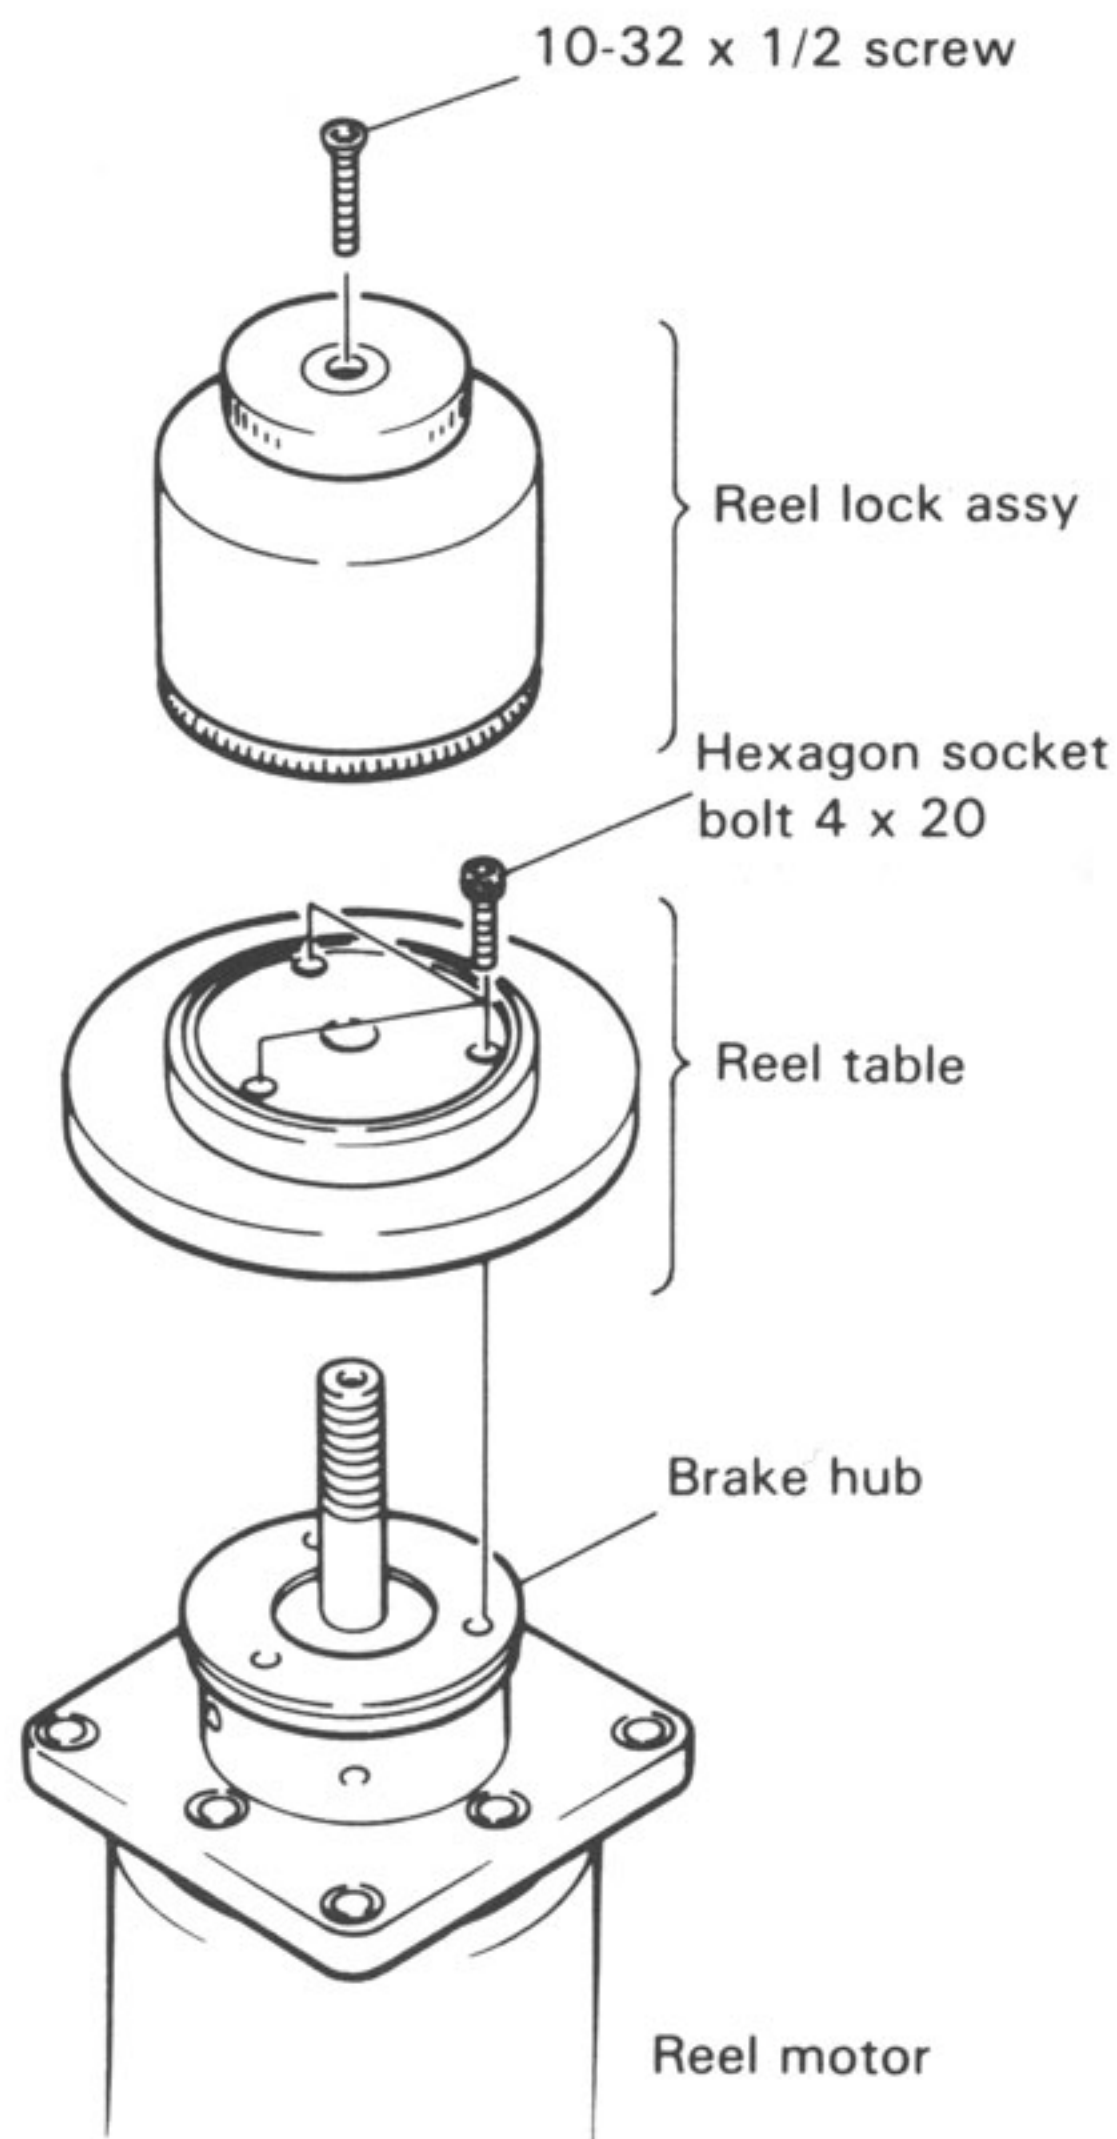

Figure 6-4. Reel Motor Assembly
The height of the supply motor is adjusted so that the tape travels in the middle of the guide roller (S). Figure 6-4 shows the various parts of the reel motor assembly.
- STEP 2.** Put the machine in Rewind/Shuttle mode, and observe the tape as it exits the guide roller (S) into the supply reel.
- STEP 6.** Refer to Figure 6-4. Loosen the 10-32 x 1/2 screw on the reel lock assembly using a 1/8" hex driver.
- STEP 2.** Put the machine in Fast Forward/Shuttle mode, and observe the tape as it exits the guide roller (T) into the take-up reel.